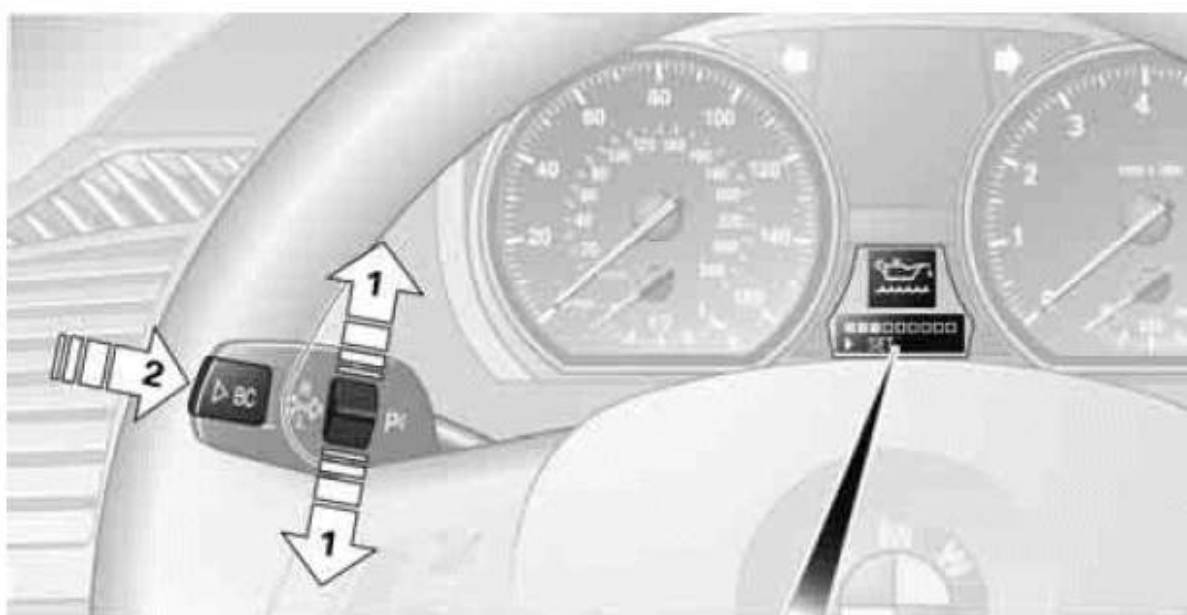
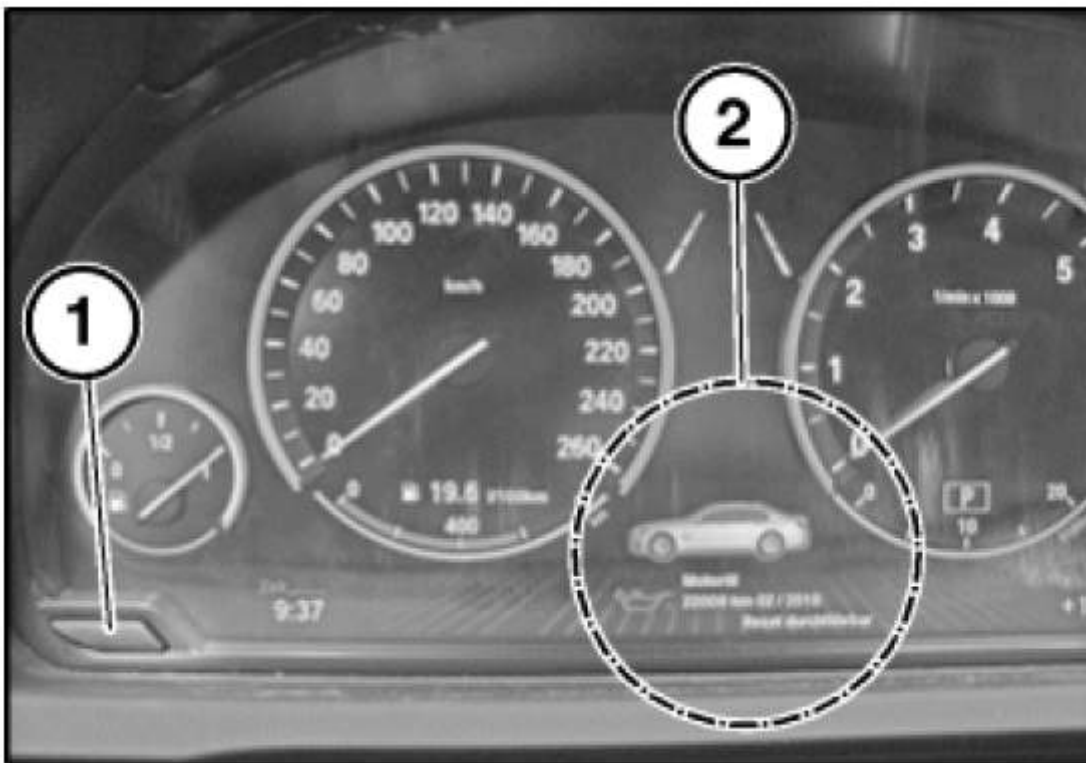

Fig. 9: Identifying Condition Based Service (CBS) Instrument Panel Controls (Typical)
Fig. 10: Identifying Condition Based Service (CBS) Instrument Panel Controls & Display (1 of 5)
NOTE: Use this procedure on vehicles with an instrument panel like the ones shown in Fig. 7, Fig. 8, or Fig. 9. If vehicle has an instrument panel like the one shown in Fig. 10, see MAINTENANCE SERVICE REMINDER RESET - PROCEDURE 5.
NOTE: On newer models, it may be the rocker/toggle switch on the turn indicator lever that is used to scroll up/down through the various service items. See Fig. 9.
NOTE: Use this procedure on vehicles with an instrument panel like the one shown in Fig. 10. If vehicle has an instrument panel like the ones shown in Fig. 7, Fig. 8, or Fig. 9, see MAINTENANCE SERVICE REMINDER RESET - PROCEDURE 4
2. Press the odometer reset button (1) until the 1st service job appears in the display (2) - 6 to 10 seconds. See Fig. 10.